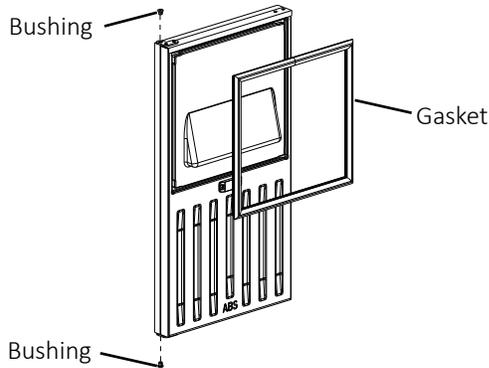

Fig. 20
8. Replace the door gasket in its proper orientation. Reinsert the bushings into hinge (C1) and hinge (C2) (the hinges attached to the door) (See Fig. 20).